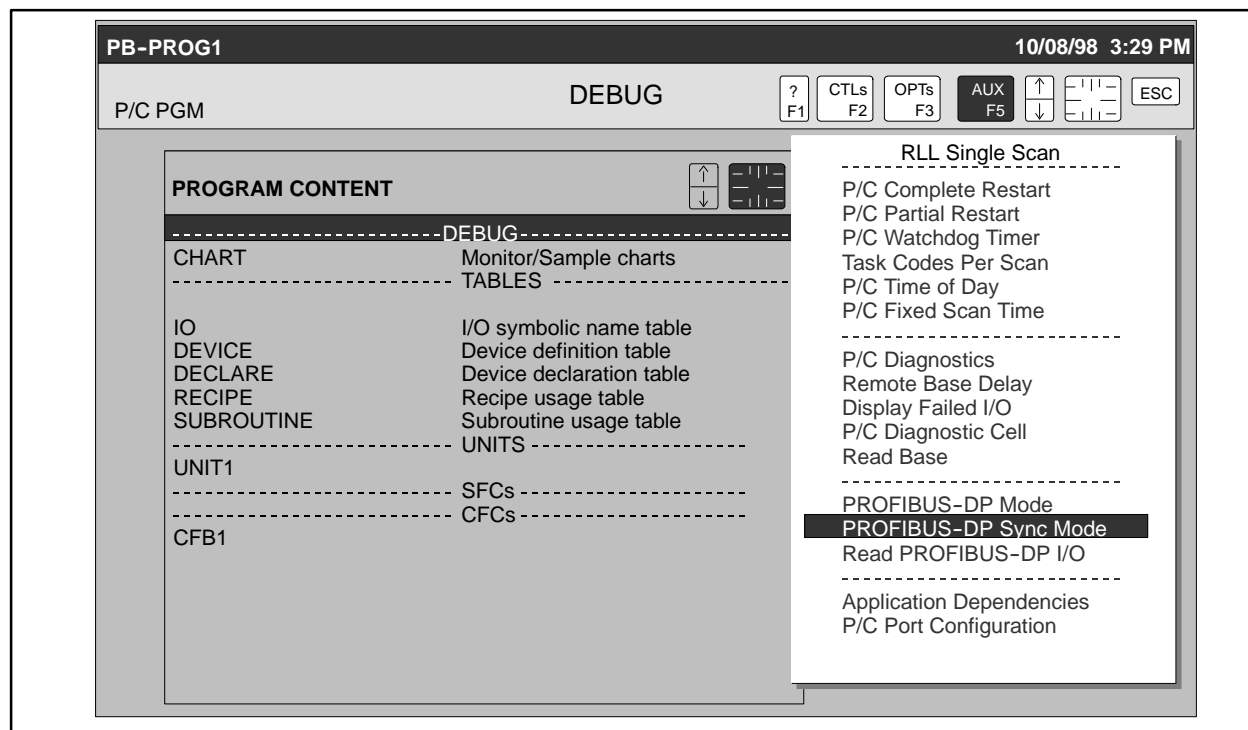

Figure 9-23 Selecting PROFIBUS-DP Synchronization Mode
2. Use the arrow keys to highlight **PROFIBUS-DP Sync Mode** (Figure 9-23).